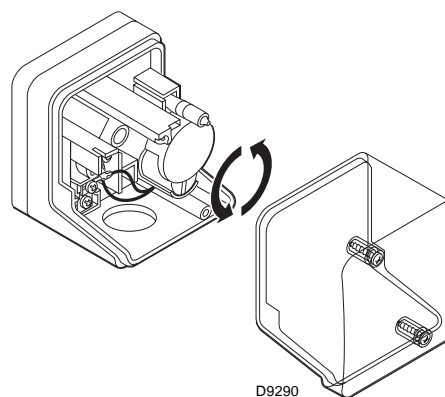

Fig. 36
- Adjust the minimum gas pressure (Fig. 36) switch to the start of the scale.
Adjust the minimum gas pressure switch (Fig. 36) after having performed all the other burner adjustments with the pressure switch set at the start of the scale.